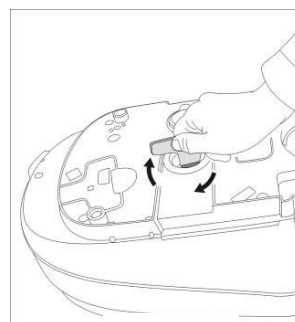

Fig 11
11. Screw the boiler cap back on again without using any excessive force as Fig 11